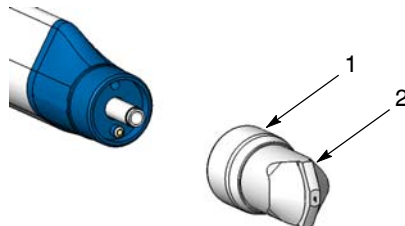

Figure 1 *Removing Nozzle*
2. See Figure 1. Remove the nozzle.